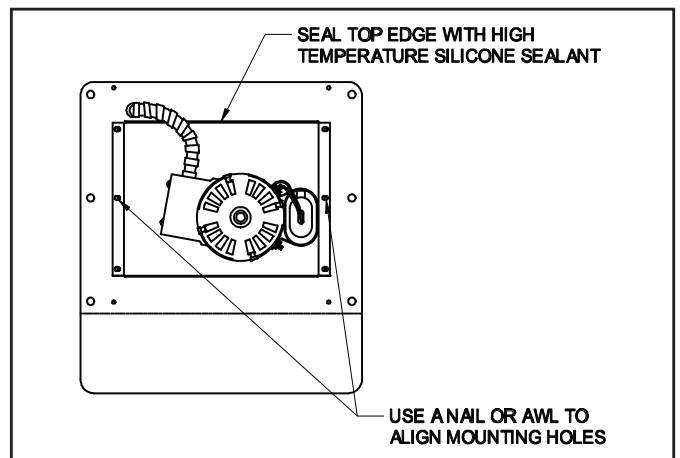

Figure 12
2. Using two nails or awls, align the two center holes of the motor mount bracket and cover plate. Locate the motor assembly into position by sliding the assembly over the mounting holes in the front plate. Use the nails or awls to hold the assembly in position. Secure motor assembly into position at the four corners, then secure center two holes. (See Figure 12)